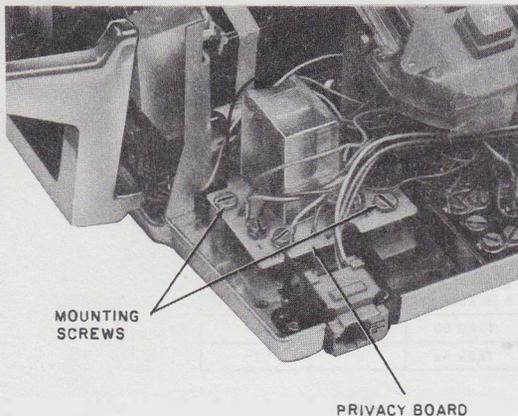

Fig. 47—Privacy Circuit Mounted in Telephone Set
- (1) Remove faceplate.
- (2) Mount privacy circuit board on the two standoffs located at the left front of the telephone set base (Fig. 47).
(3) Fasten privacy circuit board to standoffs using mounting screws furnished with the telephone set.
(4) Connect leads according to Table E.